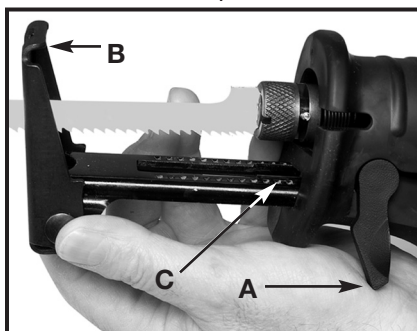
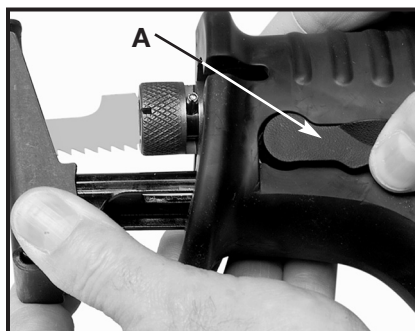

Fig. 12B
Fig. 12C
2. The **Models 746 and 747** are supplied with a keyless *Quik-Change™* pivoting guide shoe. To adjust, rotate lever (A) Fig. 12B. releasing the pivoting guide shoe (B). Adjust to desired position and close lever (A) Fig. 12C. The keyless *Quik-Change™* pivoting guide shoe is designed with a raised lip (C) at the end that prevents the guide shoe from locking in position if it is extended out too far. After adjusting, make sure the locking lever is completely closed in the locked position (A) Fig. 12C.